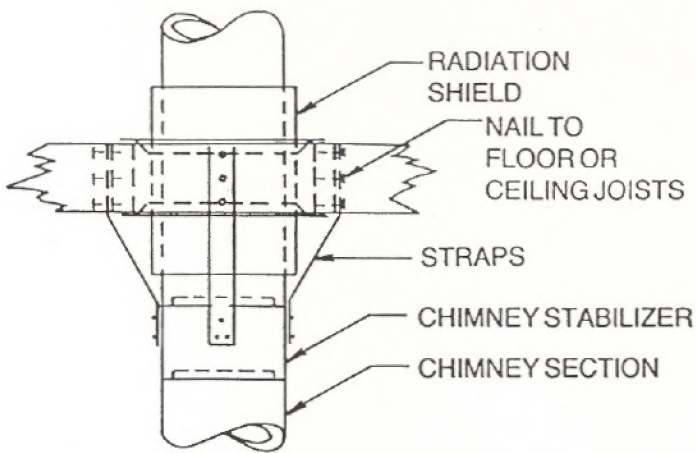

Figure 14
11. Offset/Returns and Chimney Stabilizers have straps for securing them to joists or rafters. Chimney Strapping SZ810 is available or may be locally purchased and used in conjunction with Joint Bands to secure the chimney. Offsets/Returns are also used in wall or chase construction. Chimney Brackets may be used to stabilize the chimney. See Figures 14, 15 and 16.